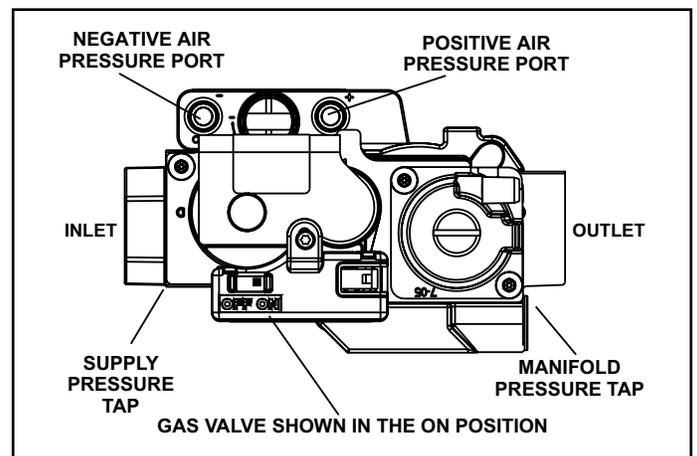

Figure 25. Gas Valve
See Figure 25
6. Move switch on gas valve to **OFF**. Do not force. See Figure 25.
8. Move switch on gas valve to ON. Do not force. See Figure 25.